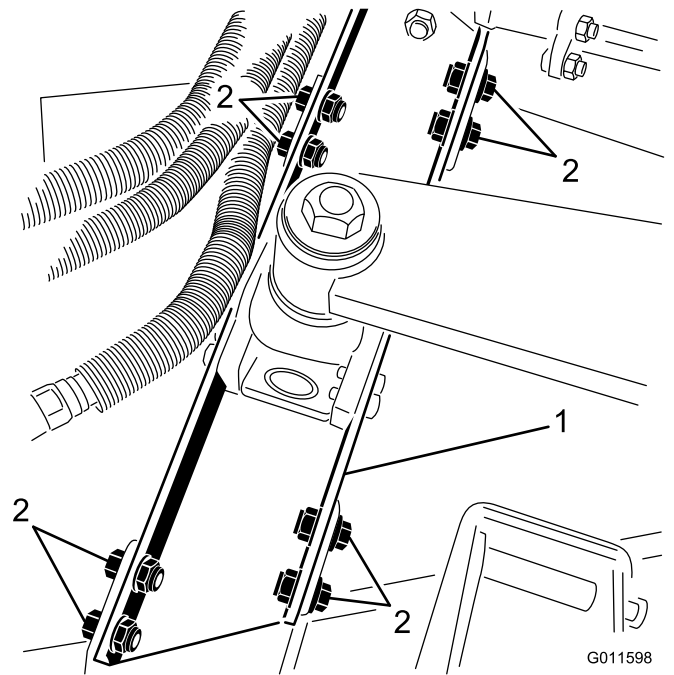

Figure 6
- Remove (8) bolts, washers and locknuts securing lift arm mount to mower deck brackets (Figure 6).